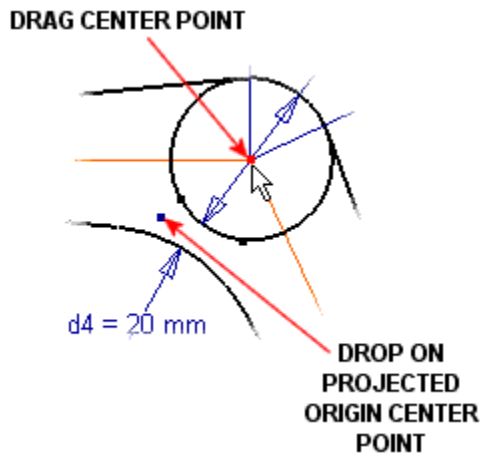

Figure 15: Drag-and-drop point and target.
4. Release the mouse button to apply the constraint (see Figure 15).